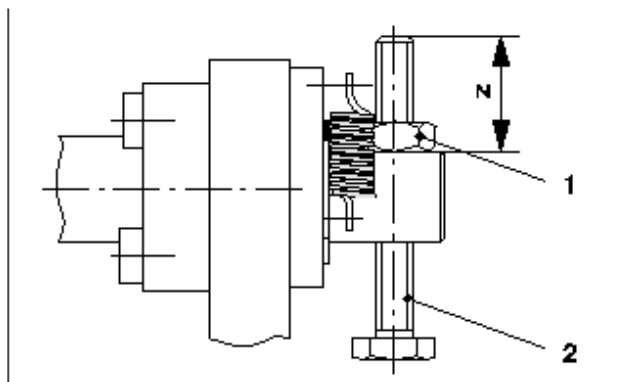

Fig. 11 Blanket washup device O.S.
1. Measure the distance z (Fig. 11) between the end of the hexagonal screw and the recess in the shaft, and note down the measured value (e.g. 15.5 mm), in order to avoid future re-adjustments.
2. Remove hexagon-head screw (Fig. 11 /2) and hexagon nut (Fig. 11 /1).